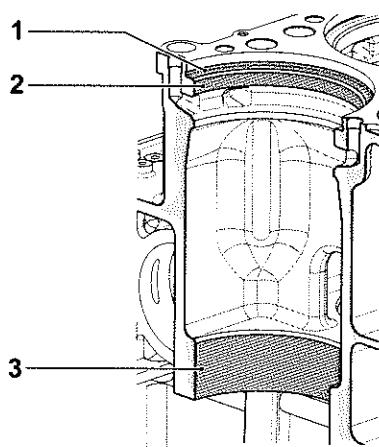

Fig.2 Locations for liquid packing and silicone oil
2. When you install the liner, apply liquid packing or silicone oil to the mating parts of the cylinder liner and cylinder block. (Refer to Fig. 2.)